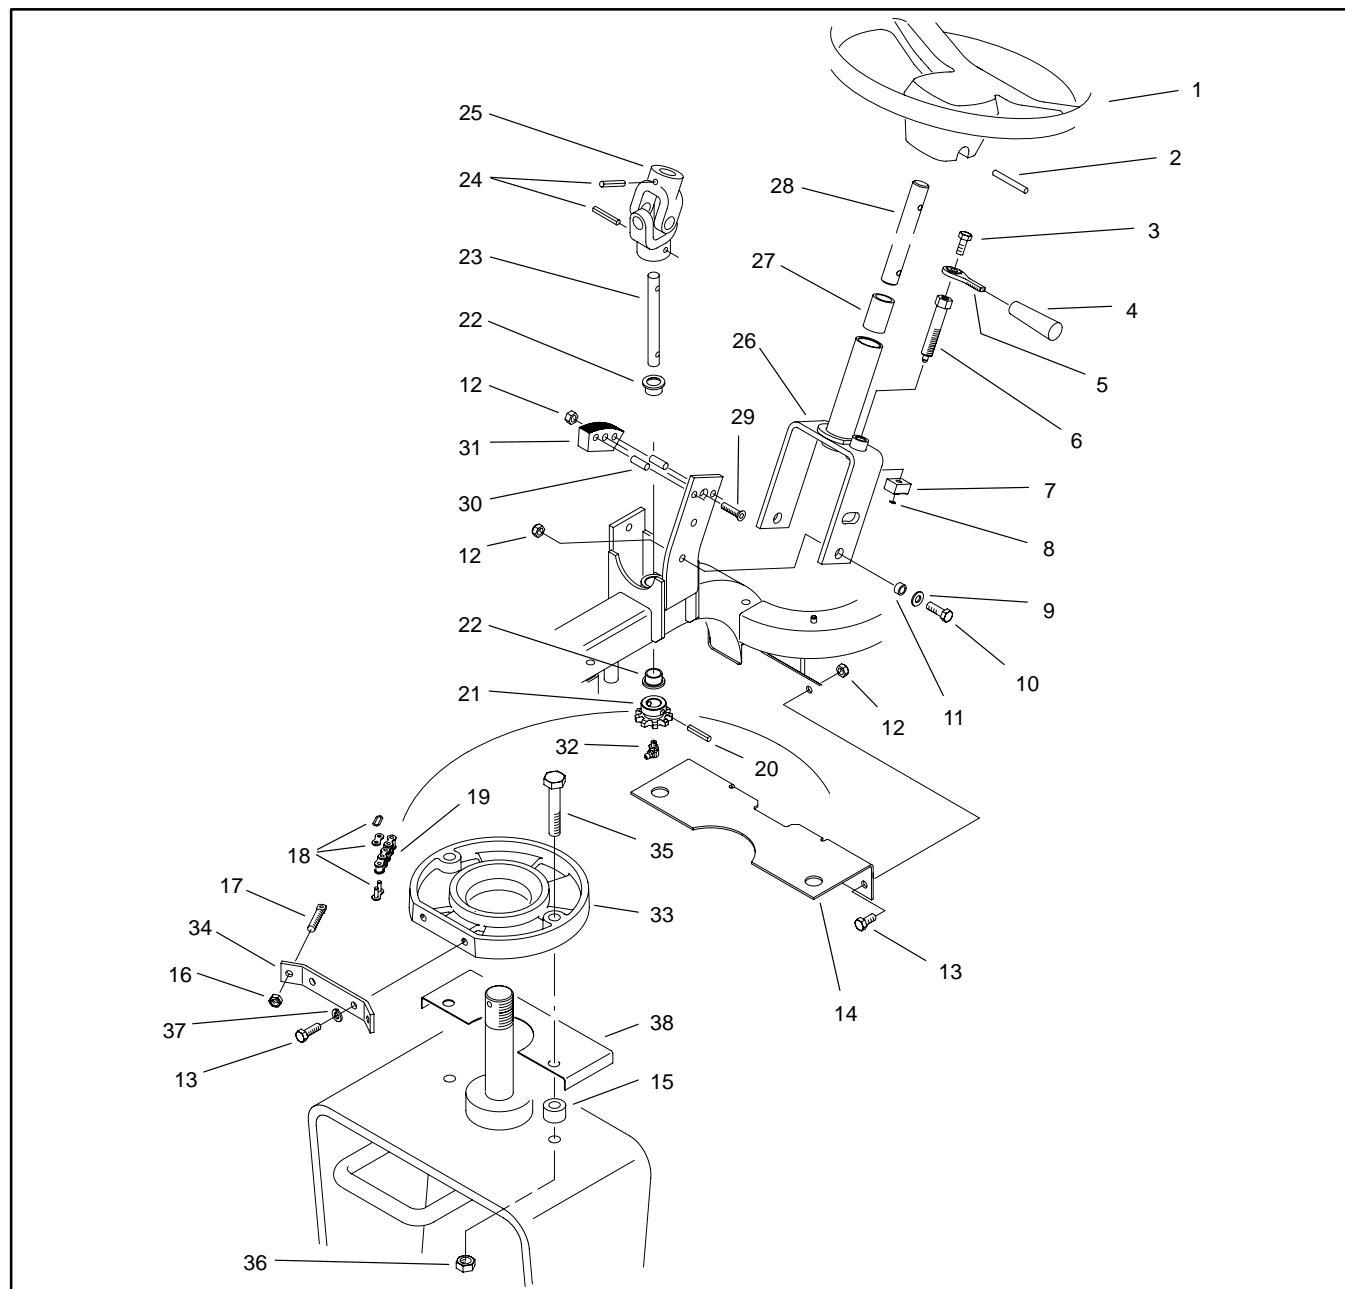

Figure 19
### Upper Steering Disassembly (Fig. 19)
### Upper Steering Assembly (Fig. 19)
5. Remove lock nut from each adjustment pin. Remove steering chain from the front fork and the sprocket (Fig. 19).